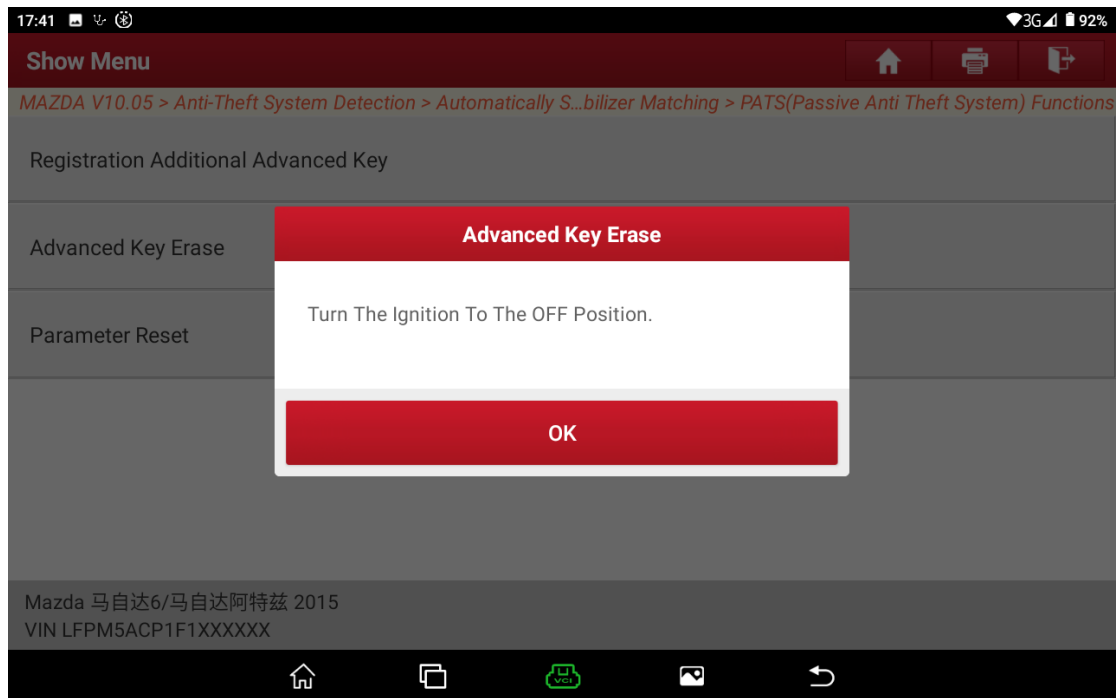

Figure 19
17. Turn off the ignition switch. See Figure 19.